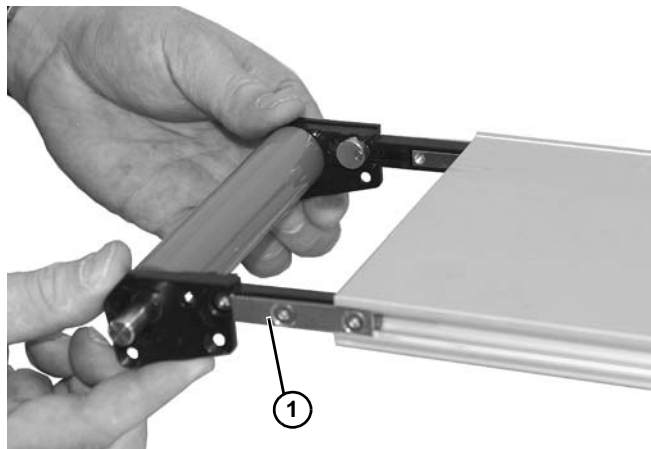

**Figure 34**
4. Remove belt (**Figure 34, item 1**) from conveyor.